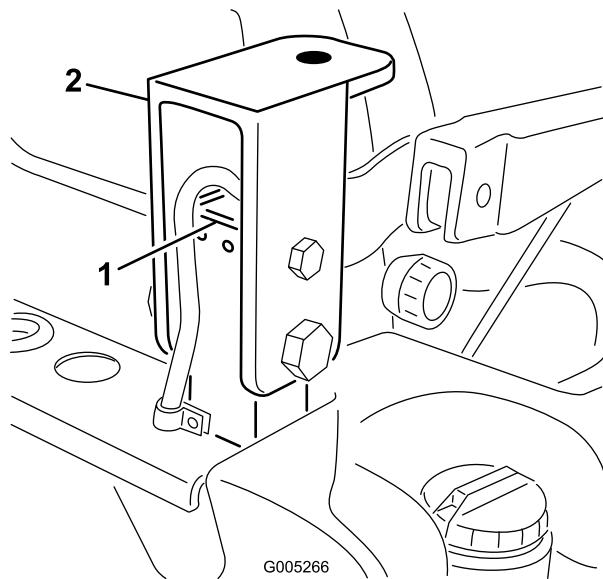

Figure 95
3. Loosely install a cab mount support to each ROPS post with two bolts (1/2 x 3 inches), two nuts (1/2 inch), two bolts (3/4 x 3-1/2 inch) and two nuts (3/4 inch) (Figure 95). Make sure the top plate hole is positioned forward. Do not tighten bolts at this time.